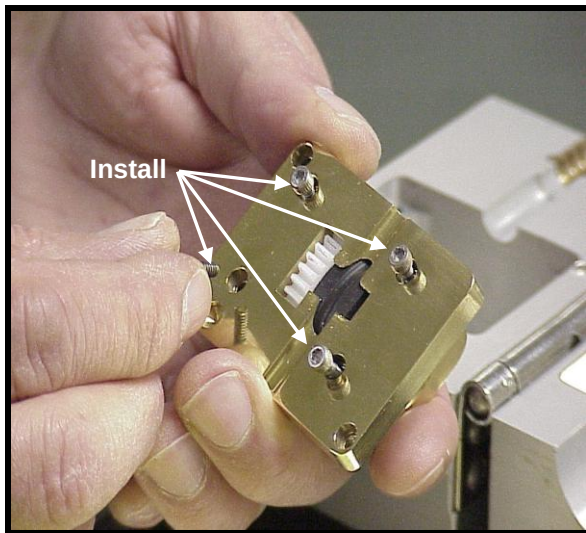

Figure 47
14.3.2.12 Replace the four (4) short machine screws to secure the Bearing Hanger Assembly to the Upper Brass Plate and lightly tighten. When properly assembled, the heads of the four (4) short machine screws will be flush with the Upper Brass Plate. **See Fig. 47**